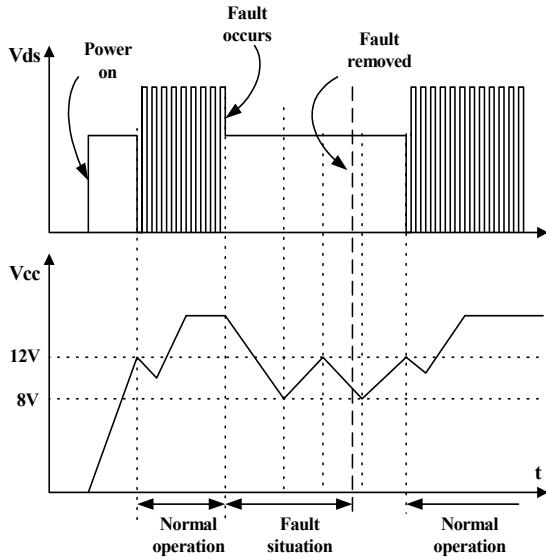

Figure 6. Auto restart operation
3. Protection Circuit : The FSDM07652R has several self protective functions such as over load protection (OLP), abnormal over current protection (AOCP), over voltage protection (OVP) and thermal shutdown (TSD). Because these protection circuits are fully integrated into the IC without external components, the reliability can be improved without increasing cost. Once the fault condition occurs, switching is terminated and the Sense FET remains off. This causes Vcc to fall. When Vcc reaches the UVLO stop voltage, 8V, the protection is reset and the internal high voltage current source charges the Vcc capacitor via the Vstr pin. When Vcc reaches the UVLO start voltage, 12V, the FPS™ resumes its normal operation. In this manner, the auto-restart can alternately enable and disable the switching of the power Sense FET until the fault condition is eliminated (see figure 6).